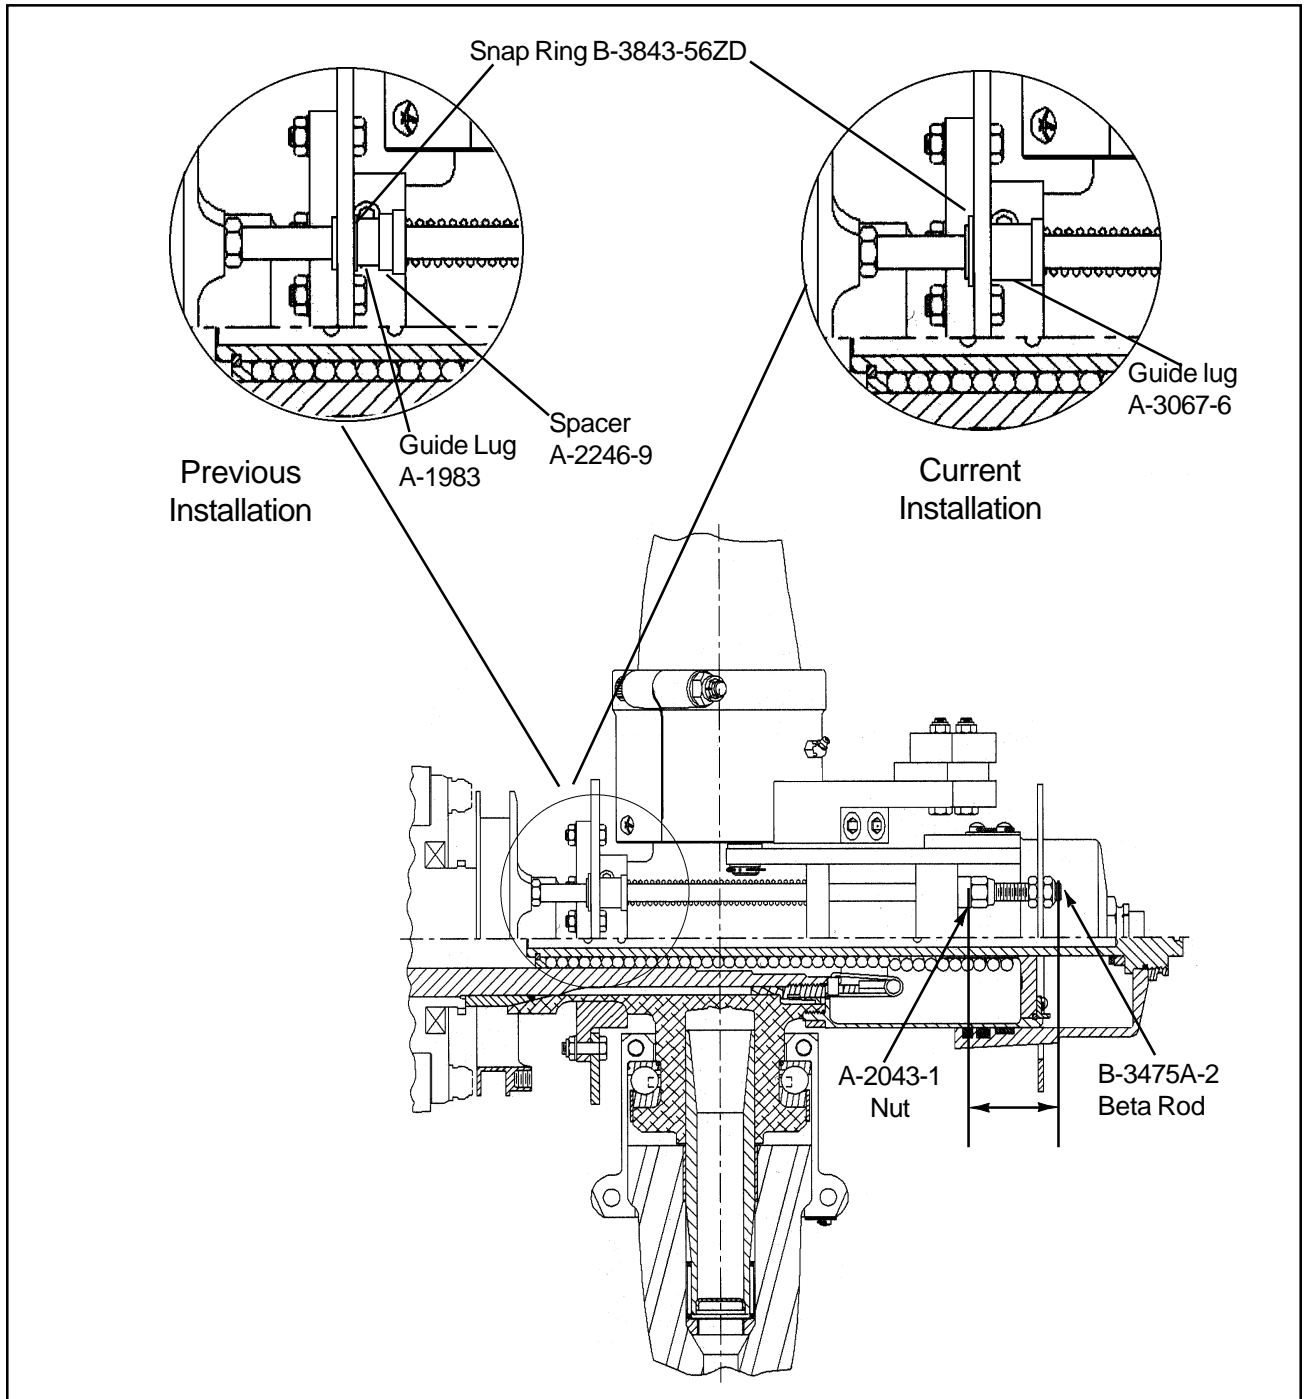

Figure 1 - HC-A3(X,V,MV)20-3L Propeller with Modified Beta Rod Guide Lug and Snap Ring.
NOTE: Measure the distance from the bottom of each low pitch stop nut (A-2043-1) to the top of each beta rod (B-3475A-2) before disassembly. Record the measurement and location on top of the piston before disassembly (See Figure 1).
- (5) Disassemble the beta system in accordance with Hartzell Manual 114C (61-10-14).
- (a) Discard the old guide lugs (A-1983) and spacers (A-2246-9). The new guide lug (A-3067-6) incorporates the guide lug and spacer into one unit (see Figure 1, Previous Installation).
- (1) Install the beta system in accordance with Hartzell Manual 114C (61-10-14).
- (a) When installing the guide lugs (A-3067-6) in the support plate, the snap ring (B-3843-56ZD) must be placed on the engine side of the support plate (see Figure 1, Current Installation).
- (2) Install the cylinder and guide collar in accordance with Hartzell Manual 114C (61-10-14).
- (3) Install the propeller on the aircraft in accordance with Hartzell Manuals 114C (61-10-14), 168 (61-00-68) and STC holder specifications.
- (4) Install the feathering spring assembly in accordance with Hartzell Manual 114C (61-10-14).
- (5) Install the piston assembly in accordance with Hartzell Manual 114C (61-10-14).
- (6) Make a record entry indicating compliance with this service letter.